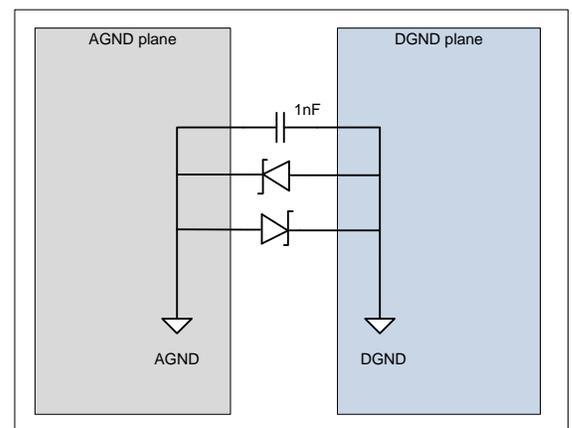

Figure 20: Grounding scheme
- ◆ Analog ground plane (AGND) is utilized to transfer the heat generated by the PD69208AH (see Figure 20) Thermal Pad Definition and Design).
- ◆ To prevent ground loop currents, use only a single connection point between the digital and analog grounds as shown in Figure 20.
- ◆ Leave spacing for a ceramic 1 nF bypass capacitor and two parallel and inversed Schottky diodes near each PoE Manager (Figure 20) between the analog and digital layers. The capacitors form low impedance paths for digital driving signals.